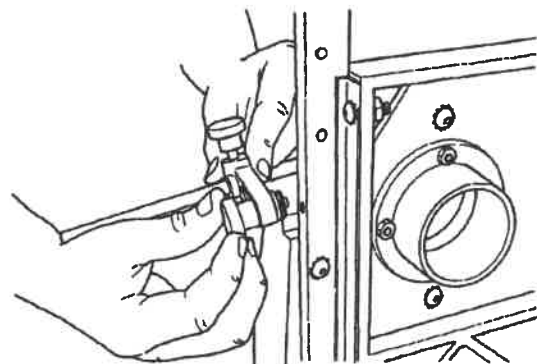

Fig. A-34
5. Install the stop rod kit on the Joint-Matic by screwing the knob into the threaded hole located in the right slide guide. See Fig. A-34.